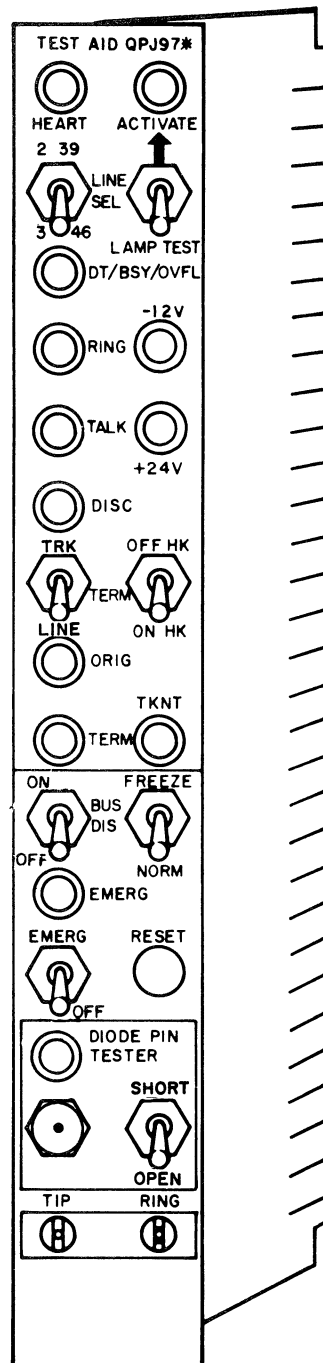

Fig. 2 — Maintenance Test QPJ97 Type Circuit Pack in Idle Condition
4.07 The description and functions of the controls (Fig. 2) on the faceplate of the test unit follow: